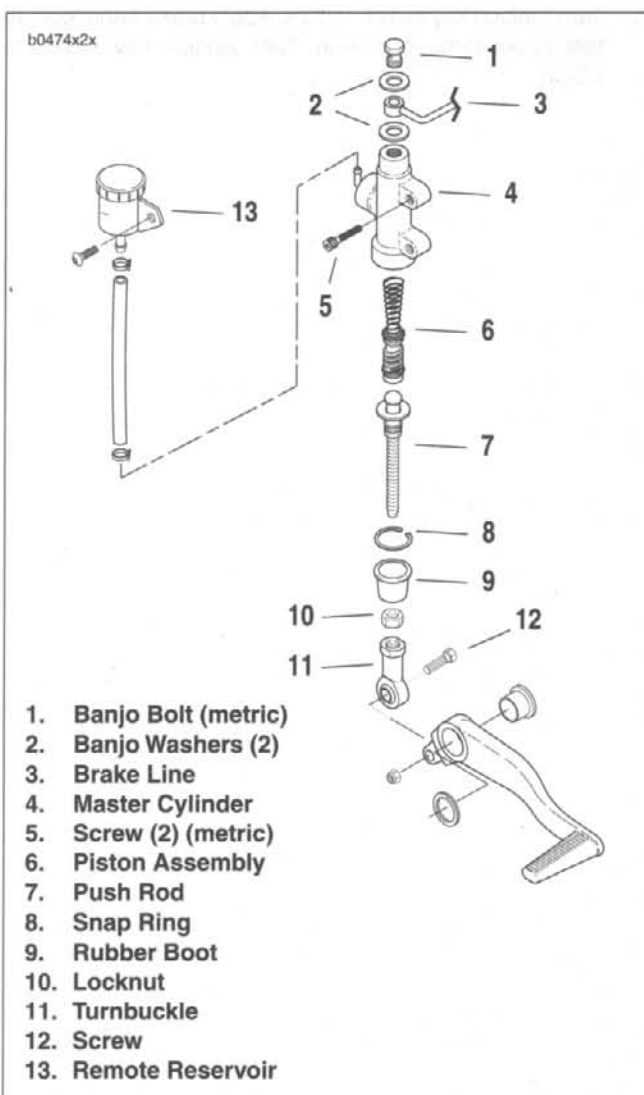

Figure 2-78. Rear Master Cylinder Assembly
2. See Figure 2-78. Remove banjo bolt (1) (metric) and two banjo washers (2) to detach brake line (3) from master cylinder (4). Discard banjo washers.
3. See Figure 2-78. Connect brake line (3) to master cylinder (4) with two **new** banjo washers (2) and banjo bolt (1) (metric). Tighten to 16-20 ft-lbs (21.7-27.1 Nm).